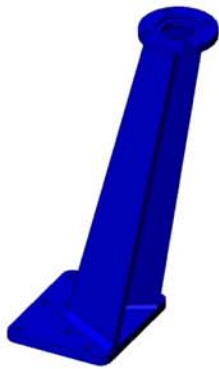

Fig. 4
- Leaning floor stand (Fig. 4)